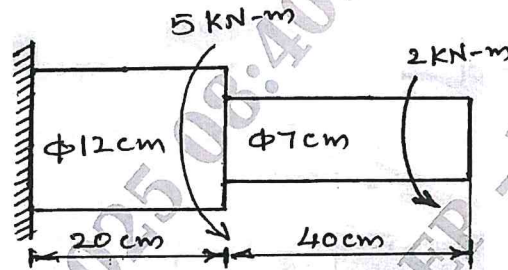

Fig.Q.6(b)
b. For the circular stepped shaft shown in Fig.Q.6(b). Determine stresses and angle of twist.